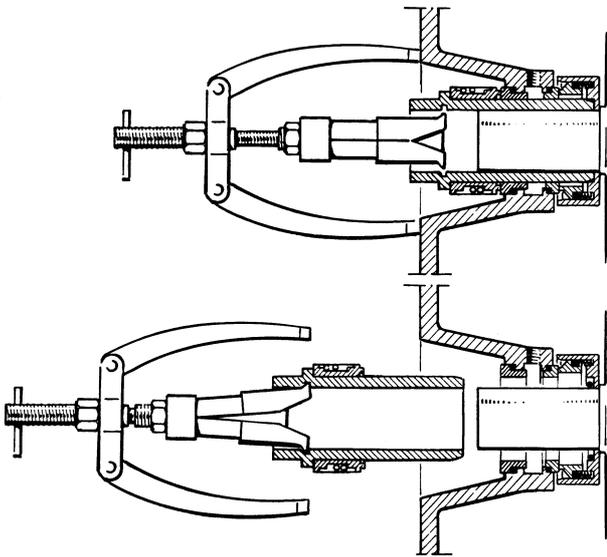

Fig. 7
2. Insert a standard puller with special extension into shaft extension (See Fig. 7).